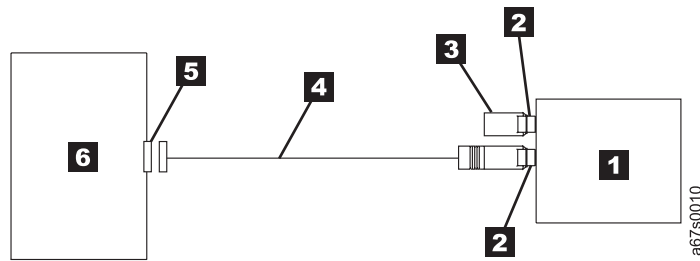

Figure 2-1. Example of connecting one SCSI device to the server. The view is from the top.
- If the tape drive is the only device on the SCSI Bus, connect the SCSI bus cable to the server (see Figure 2-1 on page 2-6).